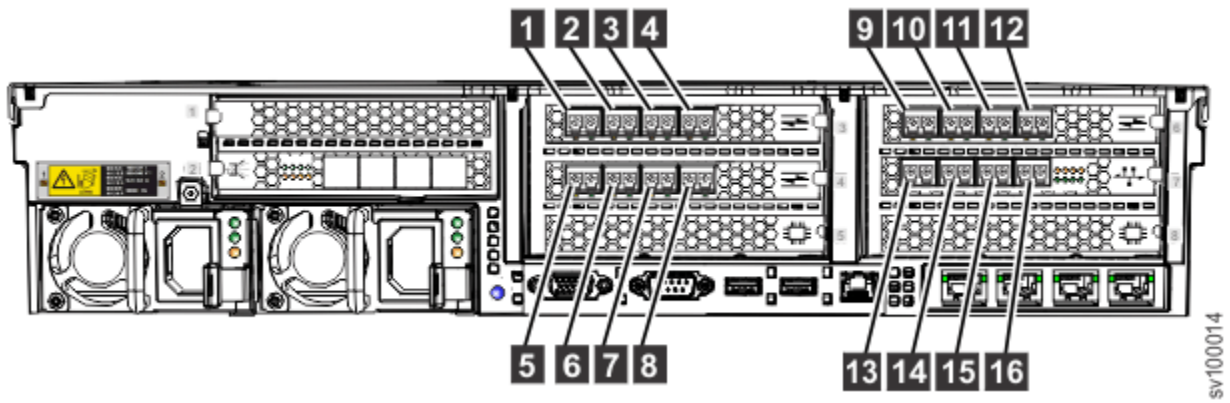

Figure 17. Fibre Channel port numbers in a typical configuration
Figure 17 on page 15 shows the physical Fibre Channel (FC) port numbers when the 10 Gbps Optical Ethernet adapter is configured for Fibre Channel over Ethernet (FCoE) communications.